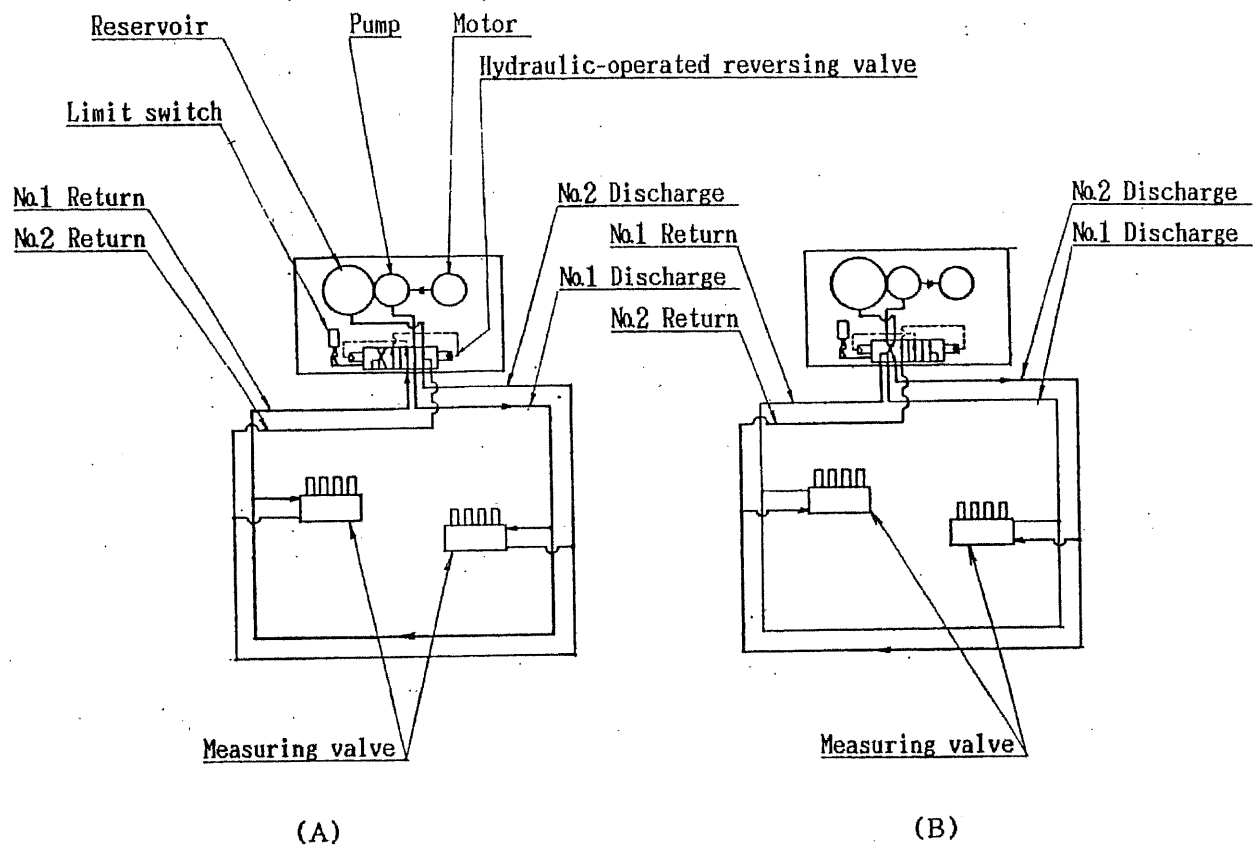

Fig.2 Lubricating circuit
The schematic diagram of the lubricating circuit is as shown in Fig.2 (A and B).
Fig.2 (A) indicates that the discharged grease from the lubricating pump is transferred in the arrow direction through the hydraulic-operated reversing valve (KRV).
While Fig.2 (B) shows that the grease transferred to No.2 line and No.1 line is open to the tank.
In Fig.2 (A), grease discharged from the lubricating pump passes through the hydraulic-operated reversing valve and flows through the line No.1 in the direction of arrow. The grease is then fed under pressure into each measuring valve through the upper side inlet (supply port) to complete one lubricating operation.
Upon completion of lubricating operation, the hydraulic-operated reversing valve is changed over by the pressurized grease at the return port of the No.1 line. This allows the lubricating circuit to form a circuit shown in Fig.2 (B). Simultaneously with the above, a limit switch attached to reversing valve is actuated to stop the lubricating pump drive motor. When the
motor is restarted, grease is supplied under pressure through the No.2 discharge line in the direction of arrow shown in Fig.2(B).
This allows the lubricating system to form the circuit shown in Fig.2 (A).
The lubricating cycles described and illustrated in Fig.2 (A) and (B) are alternately repeated until the lubricating operation is completed.